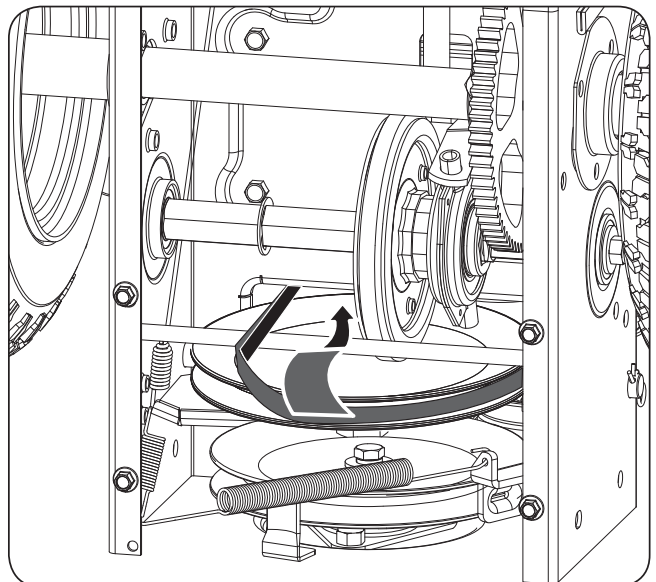

Figure 21b
6. Slip the drive belt off the pulley and between friction wheel and friction wheel disc. (See **Figure 21b**)